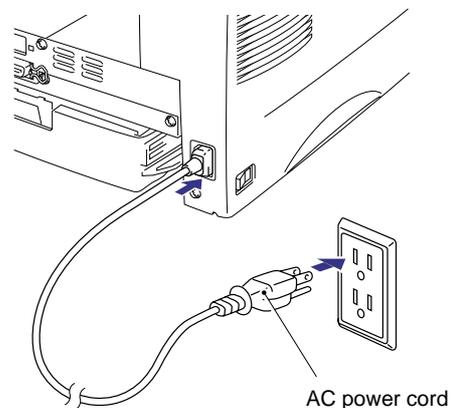

Fig. 2-11
- (1) Check that the power switch is off.
- (2) Connect the AC power cord to the printer.
- (3) Plug the AC power cord into an AC outlet, then turn on the power switch. (Fig. 2-11)